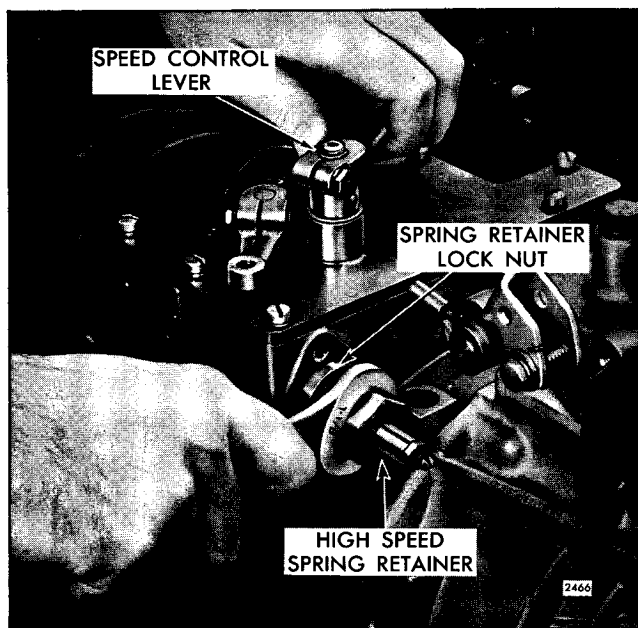

Fig. 6 - Adjusting Maximum No-Load Speed
1. Loosen the spring retainer lock nut, Fig. 6, and back off the high speed spring retainer approximately five turns.